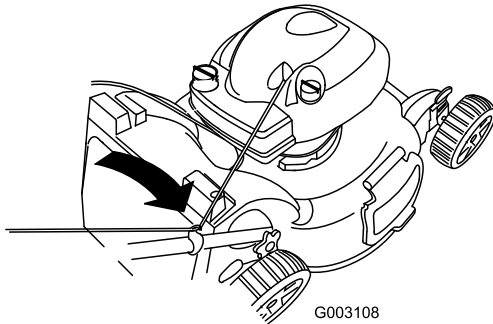

Figure 24
2. Route the starter rope around the lower rope guide (Figure 24).